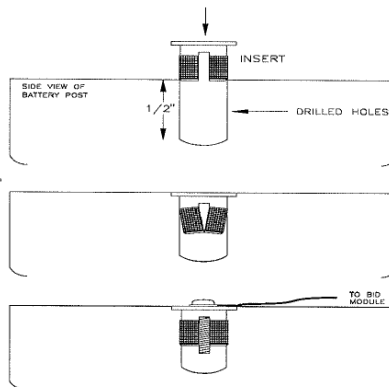

Figure 2: Place Inserts in Holes
5. Place an insert into each one of the 7 holes and tap it gently with a wooden or rubber mallet until it is flush with the surface as shown in Figure 2.